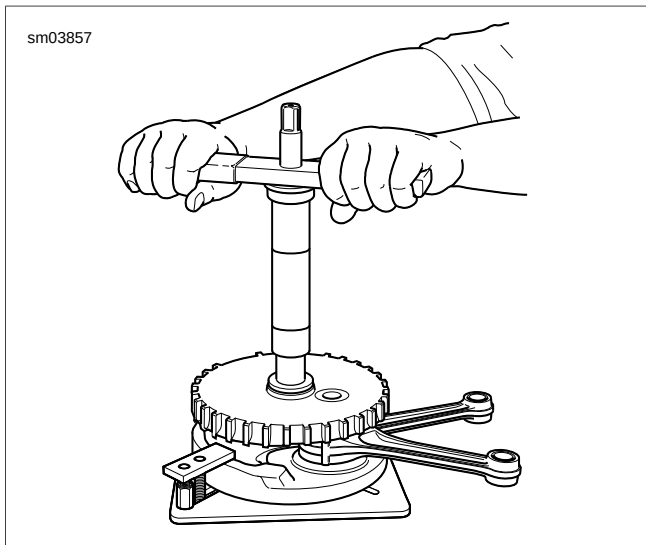

Figure 3-144. Press Inner Race onto Sprocket Shaft: Operation
5. See Figure 3-144. Rotate handle of tool clockwise until bearing inner race makes firm contact with thrust washer. Verify that thrust washer cannot be rotated by hand.